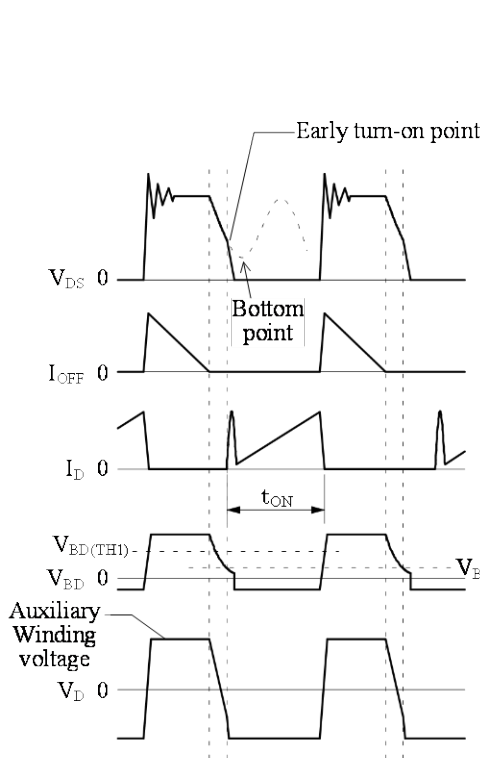

Figure 8-14. When the Turn-on of a V_{DS} Waveform Occurs after a Bottom Point
- If the turn-on point precedes the bottom of the V_{DS} signal (see Figure 8-14), it causes higher switching losses. In that situation, after confirming the initial turn-on point, delay the turn-on point by increasing the C_{BD} value gradually, so that the turn-on will match the bottom point of V_{DS} .